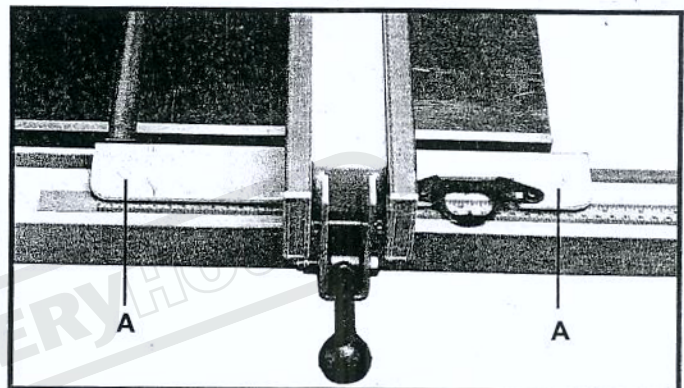
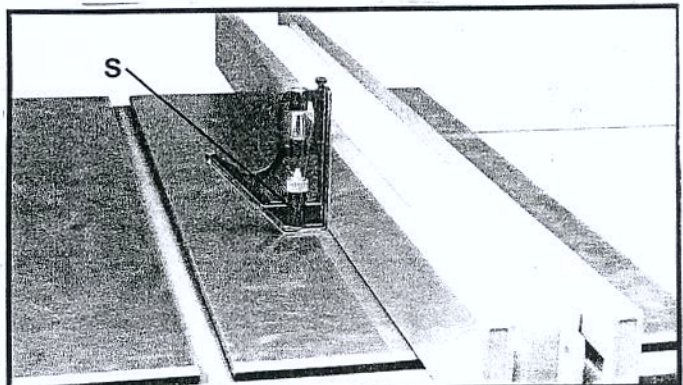
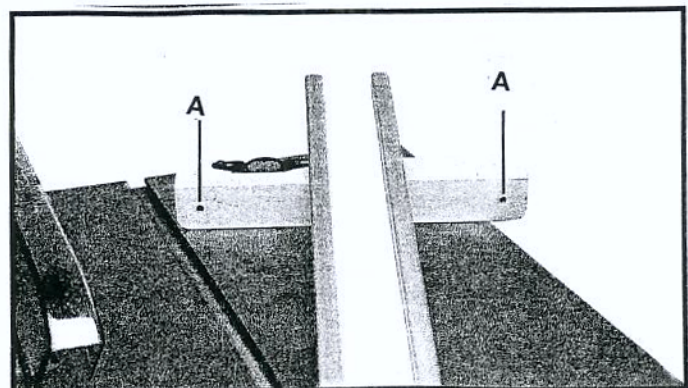

FIG 2
FIG 3
Fig. 4
1. Installation and removal of arbor extension Page 5, Section A (4)
2. Installation and removal of saw blade Page 5, Section A (5)
3. Adjustment of table parallel with saw blade Page 5, Section A (8)
4. Adjustment of blade guard Page 7, Section C (5)
B. BLADE HEIGHT ADJUSTMENT (Figure 4)
3. The blade height mechanism has upper and lower limit stops (Figure 3, Ref. Nos. 12 and 63). These limit stops are set at the factory and need no further adjustment.
C. BLADE TILT ADJUSTMENT (Figure 4)
- i. Loosen locknut (Figure 3, Ref. No. 31) on adjusting screw (Figure 3, Ref. No. 33) and turn adjusting screw clockwise.
- iii. When exactly at 90°, turn adjusting screw (Figure 3, Ref. No. 33) against the lug on the front trunnion (Figure 3, Ref. No. 27). Do not turn too far. Recheck 90°.
- iv. Tighten locknut (Figure 3, Ref. No. 31) securely.
- v. Check tilt indicator pointer. If necessary adjust pointer so it points to the "0" degrees mark on the scale. To adjust pointer, remove hand wheel (Fig. 4, Ref. No. 30) and loosen screw (Figure 3, Ref. No. 21). Be sure to tighten screw securely after adjustment is completed.
d. If 45° adjustment is necessary, adjust 45° stop in the same manner as the 90° stop. The only exception is that the adjustment bolt and locknut (Figure 3, Ref. Nos. 32 and 31) are on the other end of the rack. Adjust the indicator if necessary.
THIS 12" SAW FENCE BRACKET THERE IS TWO NYLON SCREW (SEE FIG 2)A) CAN BE ADJUST RAISE OR LOWER TO CONTROL THE FENCE 90° TO THE TABLE, USED A SQUARE ON THE TABLE NEXT TO THE FENCE UNTIL THE FENCE IS 90° TO THE TABLE BY ADJUSTING SCREW. (SEE FIG 3).
PLACE THE FENCE NEXT TO THE EDGE LINE OF THE MITRE SLOT AND LOCK IT THE FENCE MUST BE EVEN WITH THE MITRE SLOT FROM FRONT TO REAR. IF NOT, ADJUST ONE OF TWO SETS SCREW LINE (SEE FIG 4)A) UNTIL THE FENCE IS EVEN WITH THE MITRE SLOT EDGE LINE ALONG ITS WHEN BE LOCKED.
- c. ADJUST TWO SET SCREWS WITH 4mm ALLEN WRANGE UNTIL THE FENCE IS HELD SECURELY (SEE FIG 4)A) WHEN THE LOCK HANDLE IS PUSHED DOWN.
A BOTH OF INCHES AND METRIC MEASURE SCALE HAS BEEN BUILT ON THE GUIDE RAIL AT THE FACTORY WHEN THE FENCE LEFT SIDE NEXT THE BLADE RIGHT SIDE LINE LENS INDICATE SHOULD BE POINT ON THE "0" POSITION IF NOT LOOSE 2 ROUND HEAD SCREW REMOVE LENS INDICATE BRACKET TO POINT ON "0" POSITION (SEE FIG 4).
Dado table insert (Figure 4, Ref. No. 52)